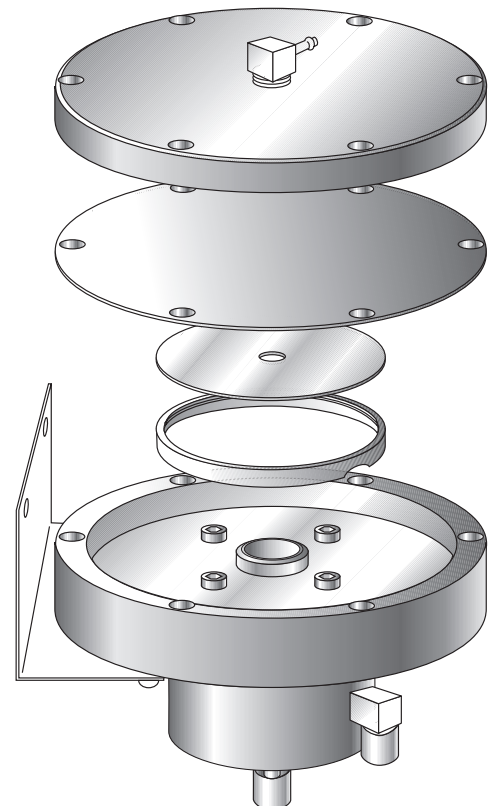

Fig. 7.1-a
- A.** Remove the six allen head screws on top of the fuel management unit (FMU). (See Fig. 7.1-a.)